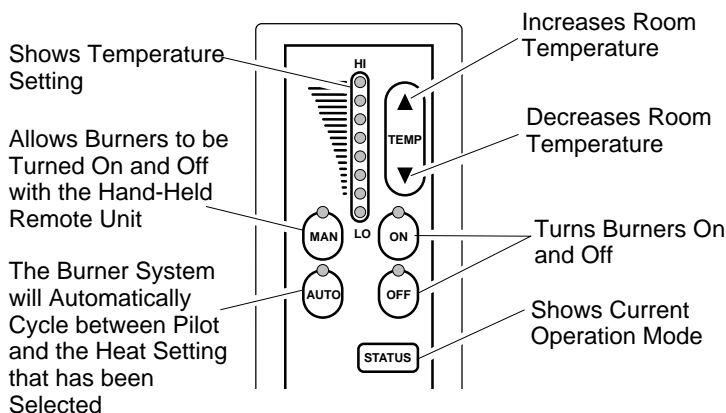

Figure 60 - Hand-Held Thermostat Remote Control Unit Selections (GHRCT Only)
- 2b. Select the MAN (manual) or AUTO button on the hand-held remote control unit (see Figure 60).